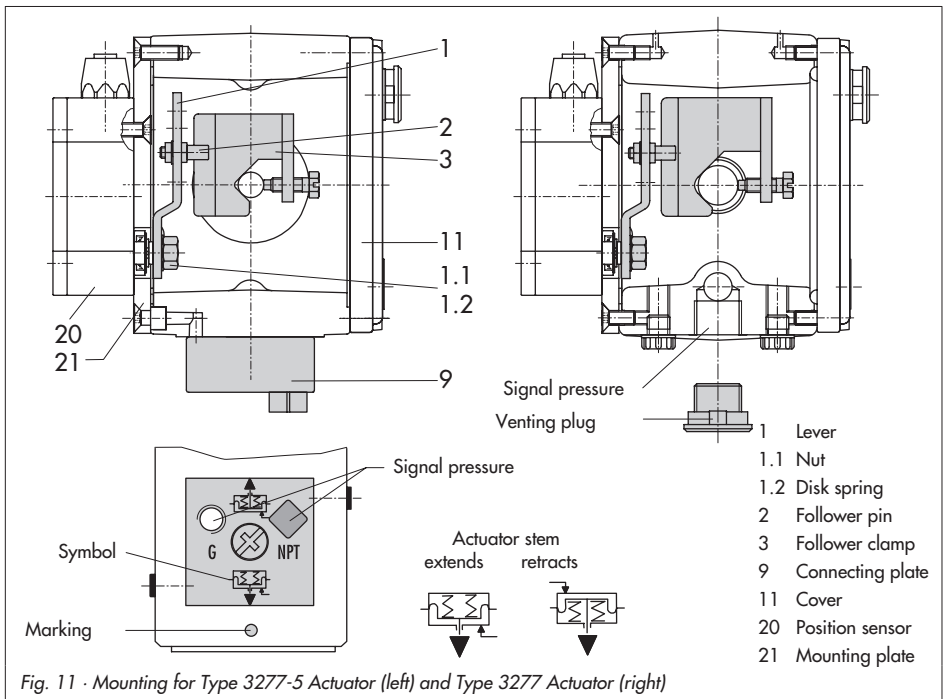

Fig. 11 · Mounting for Type 3277-5 Actuator (left) and Type 3277 Actuator (right)
The signal pressure from the positioner is routed over the signal pressure connection of the connecting plate (9, Fig. 11 left) to the actuator diaphragm chamber. To proceed, first screw the connecting plate (9) included in the accessories onto the actuator yoke.
- ▶ Turn the connecting plate (9) so that the correct symbol for the fail-safe position "Actuator stem extends" or "Actuator stem retracts" is aligned with the marking (Fig. 11, below).
- ▶ Make sure that the gasket for the connecting plate (9) is correctly inserted.